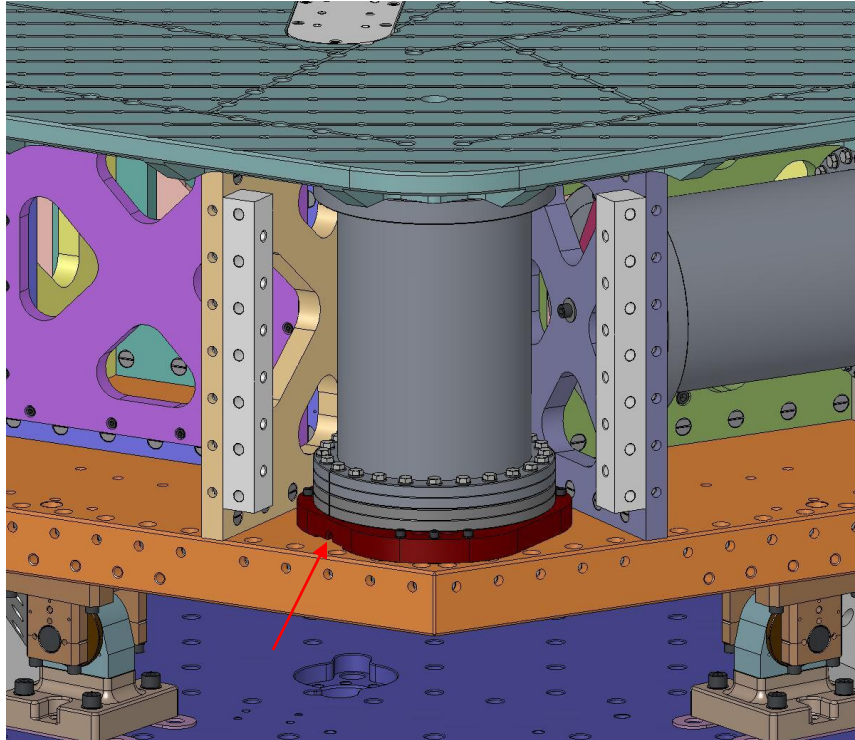

Figure 4.130. Vertical GS-13 placed on Stage 1 Floor. Note location of cable notch, indicated by arrow.
- Repeat last (9) steps, to install remaining (2) **Horizontal GS-13's**.
- Place **Vertical GS-13** at corner of **Stage 1 Floor** directly to the left of one of the **Horizontal GS-13's**. Again, pull **Captive Screws** into **Adapter Plate**, to provide adequate clearance. Note the orientation of the **Adapter Plate**, as shown in Figure 4.130.